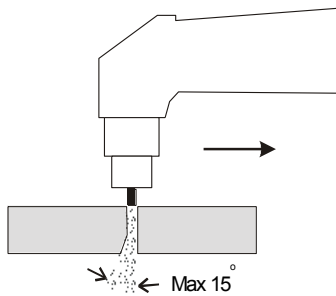

Fig. 7
1. The cutting speed is too high. Make sure the slope of the cutting arc does not exceed about 15 ° (see Figure 7).